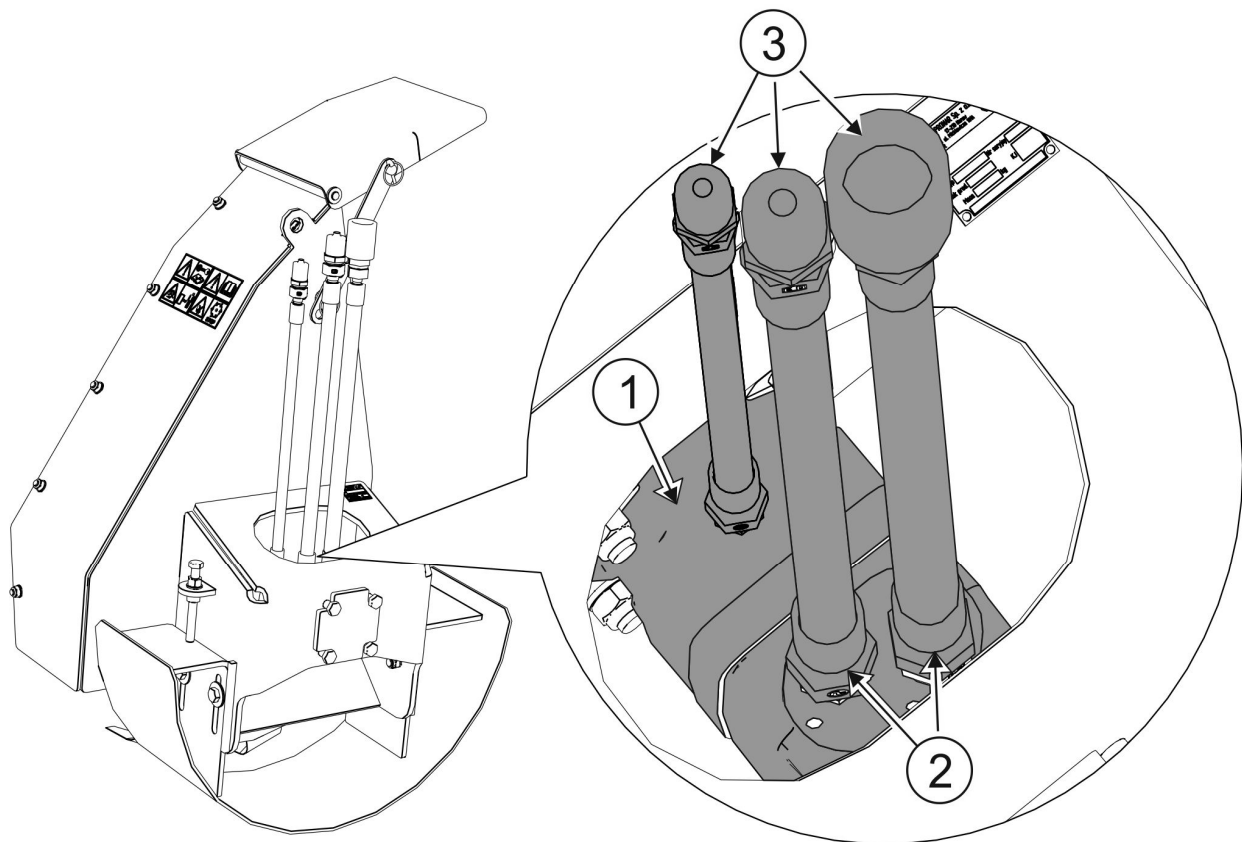

FIGURE 5.3 Inspect connections of quick couplers of the hydraulic motor's hydraulic lines.
The hydraulic system must be tight. If oil leak is detected on hydraulic motor body (1) (FIGURE 5.3), ascertain origin of leak. In the event of noticing leaks stop using the machine until faults are remedied.